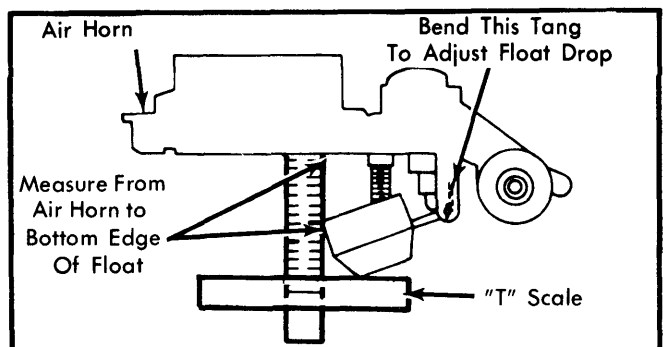

Fig. 2 Adjusting Float Drop
**All Models (Exc. General Motors)** — 1) With air horn removed, position right side up. Allow float to hang. Using "T" scale, measure specified float drop from air horn gasket surface to lowest point at bottom of float. See Fig. 2.